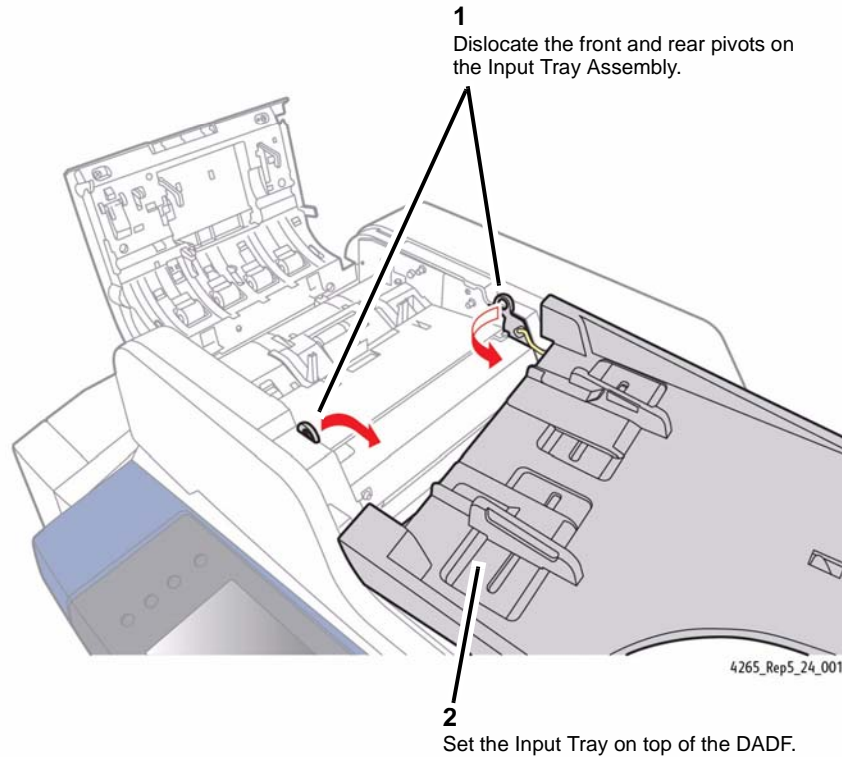

Figure 1 Dislocating the Input Tray Assembly
3. Dislocate the Input Tray Assembly from its pivots on the DADF (Figure 1).